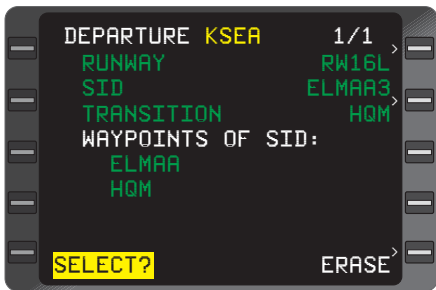

Figure 3-26
11. Departure **SID** Waypoints - REVIEW (Figure 3-26), then DEPRESS the **ENTER** Key to select the SID and insert it into Active Flight Plan. The display will automatically return to the **ACTIVE FLIGHT PLAN** Page.